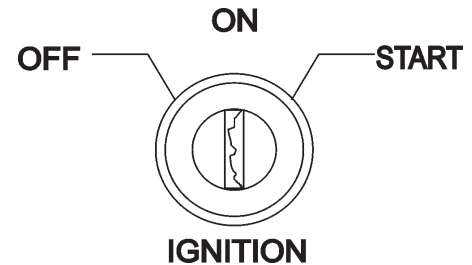

Figure 23. Ignition Switch
5. To start the engine, insert the key (Figure 23) into the ignition switch and turn the key to the **ON** position.